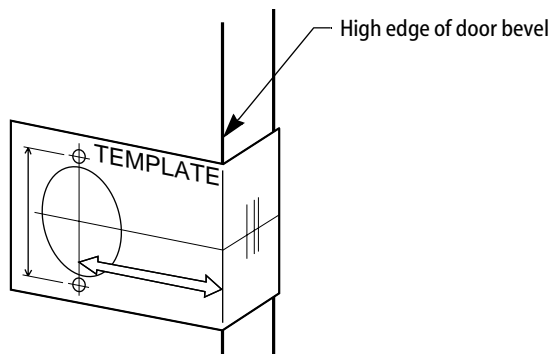

Figure 2
- 1 Fold the template and place in position on the high edge of the door bevel (see Figure 2).